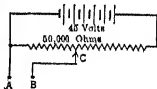

FIG. 37. Diagram of connections for potentiometer of Fig. 36 used to control "C" battery voltage.
**Prob. 8-2.** Fig. 37 represents a potentiometer of 50,000 ohms resistance connected across a 45-volt "C" battery. This arrangement is used to supply a variable voltage for the grid circuit of a vacuum tube.